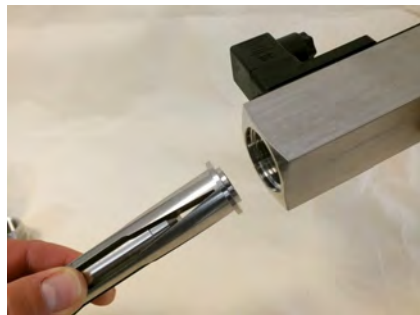

Fig. 39: Remove inner parts
4. ➤ Carefully turn the device body 180° and remove the inner parts (slot nozzle, float and inlet centering disc). (Fig. 39)